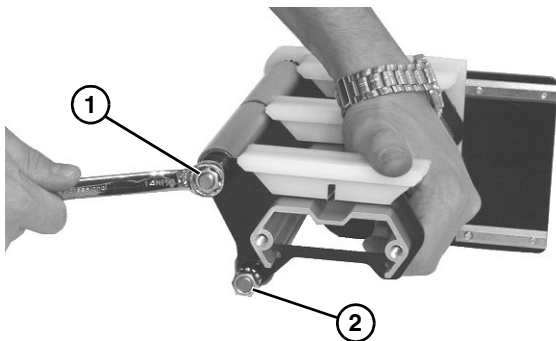

Figure 48
5. Remove upper nut (**Figure 48, item 1**) and spacer from end of axle shaft assembly.
6. Remove lower nut (**Figure 48, item 2**) and spacer from lower axle shaft assembly.